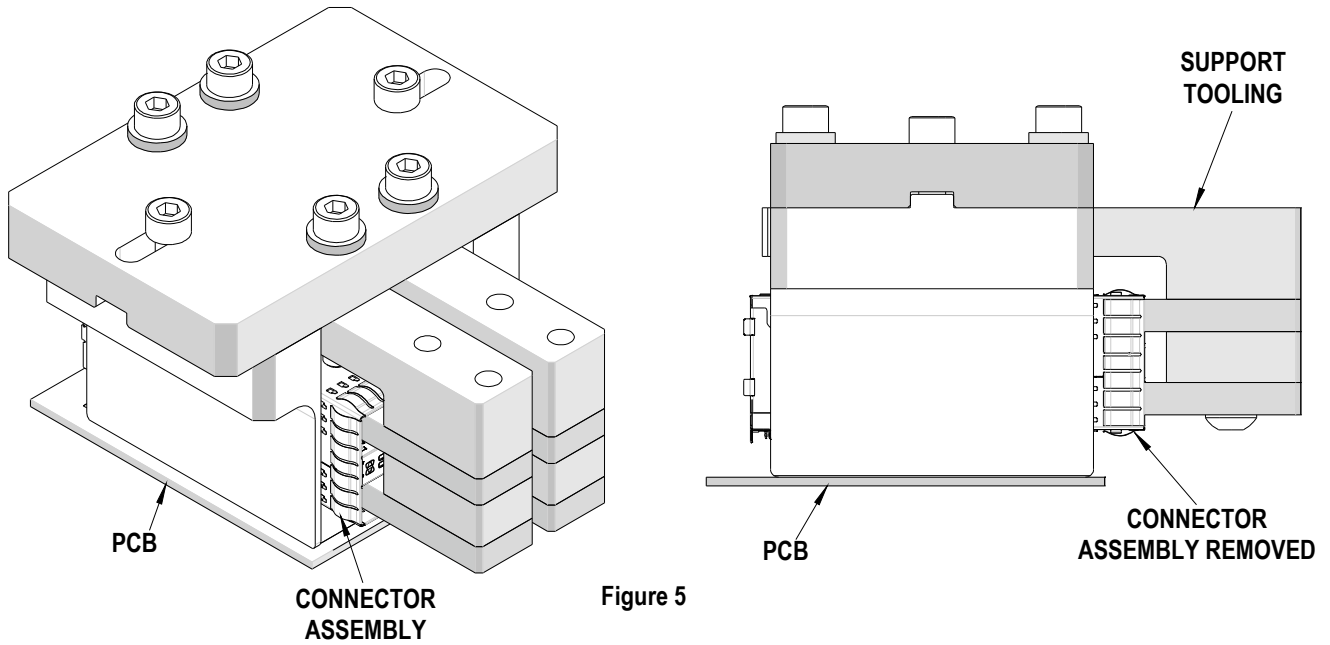

Figure 5
- Using a 4mm hex wrench, tighten each screw, one turn in an alternating pattern until the cage assembly is removed from the PCB. See Figure 5.